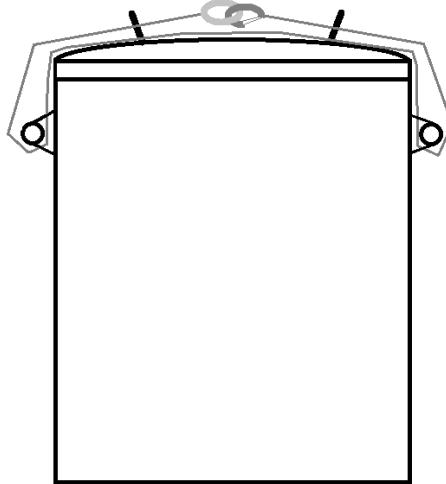

Figure 20: Security Cable Installation
- Loop the safety cable through both lid handles and through the handles on both sides of the vessel and then back through the lid handles so the two ends meet then secure the two ends together (See Figure 20)